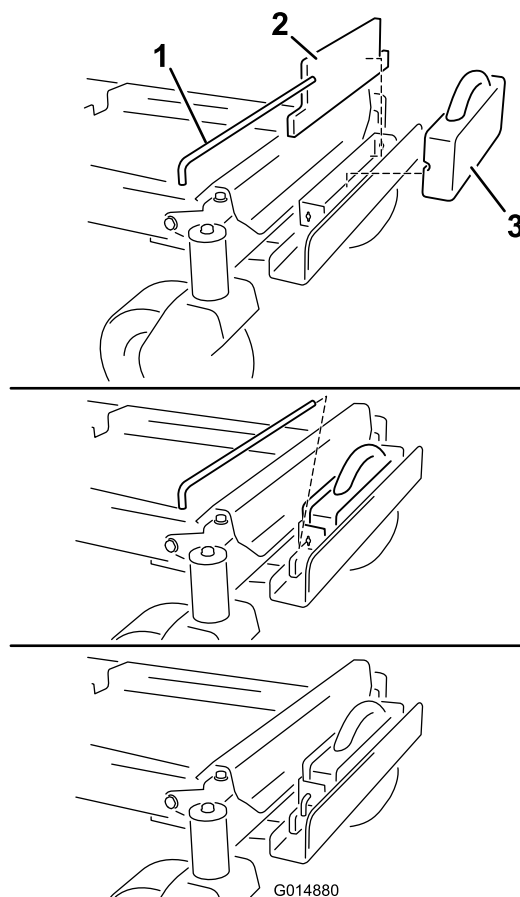

Figure 9
7. Install a flat weight to the holding bracket and move it rearward, flush with the bracket (Figure 9).
8. Install a suitcase weight in front of the flat weight (Figure 9). The groove in the suitcase weight should be facing rearward.
9. Secure the weights to the bracket with a keyed cross bar (Figure 9). Install the bar and rotate it 90 degrees downward to lock it in place.